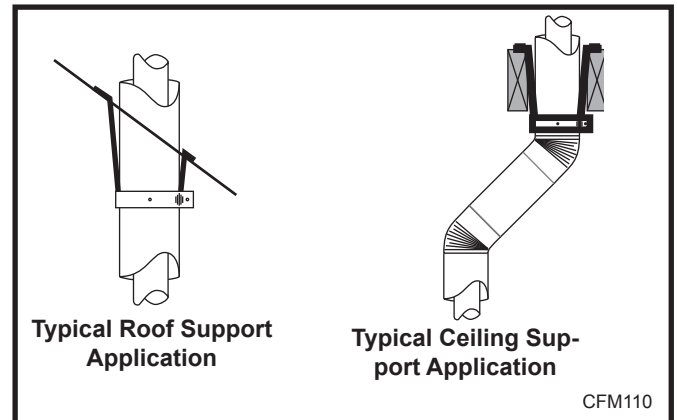
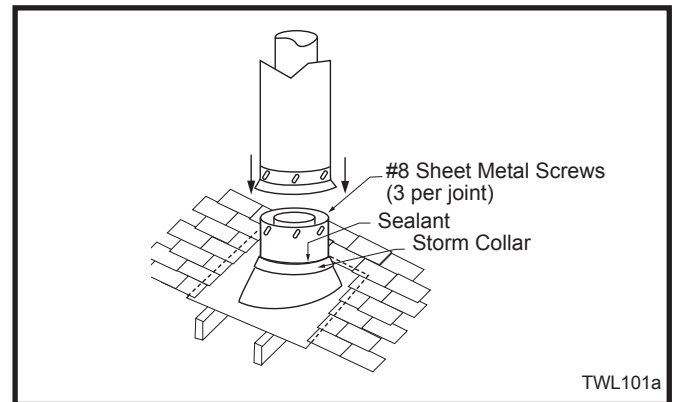

Fig. 34 Roof and ceiling supports.
Fig. 35 Roof flashing.
- 7DVCS must be used to support offsets. (Fig. 34) This application will require that you first determine the roof pitch and use the appropriate starter kit. (Refer to Venting Components List)
7. Install roof support (Fig. 34) and roof flashing making sure upper flange of flashing is below the shingles. (Fig. 35)
8. Install appropriate pipe sections until the venting is above the flashing. (Fig. 35)
The enlarged ends of the vent section always face downward. (Fig. 35)